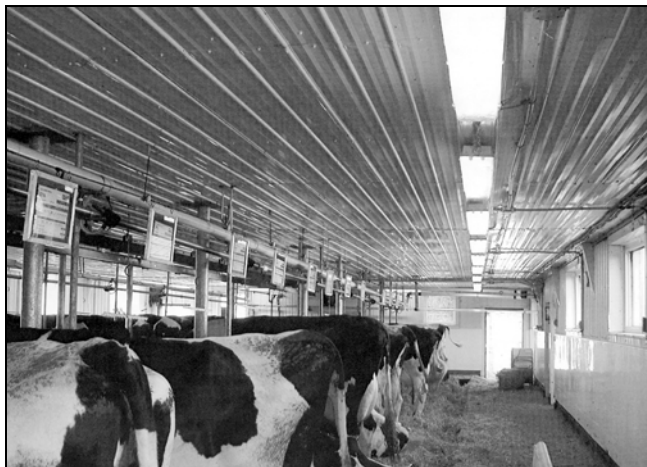

FIGURE 6. T8 fluorescent lights in dairy barn.
- last at least 20 times longer than regular life incandescent lamps. (See *Figure 6*)